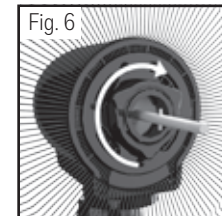

Fig. 6
2. Position the rear grille onto the fan head assembly making sure the two alignment holes are aligned with the two prongs. (Fig. 6)
3. Screw on plastic nut tightly clockwise to attach rear grille. (Fig. 6)